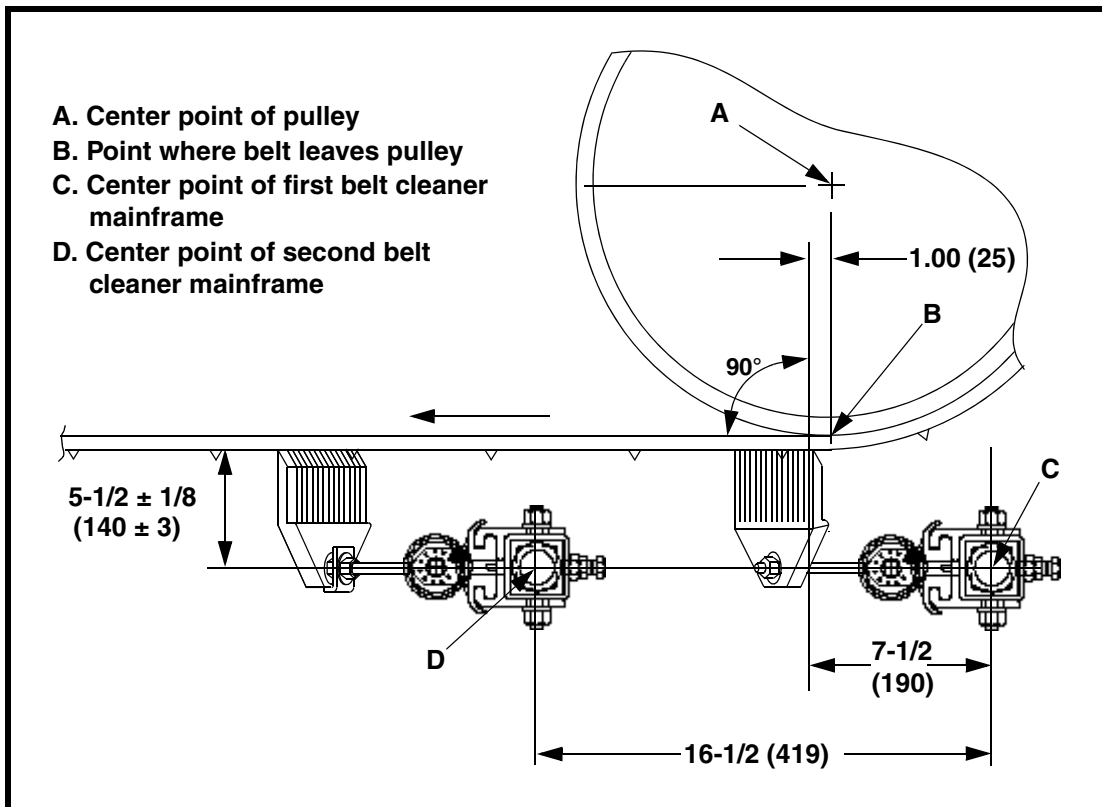

Figure 1. Martin® Torsion Arm Chevron Cleaner Mainframe Location
1. See Figure 1. On operator side chute wall, draw horizontal and vertical center lines of pulley to find pulley center point (A). Make sure vertical center line is perpendicular to belt line.
2. Measure 1 in. (25 mm) past point where belt leaves pulley (B), and mark vertical line on chute wall perpendicular to belt line.
4. Measure vertically and horizontally as shown in Figure 1 and mark mainframe center point (C).
- a. On chute wall, measure 16-1/2 in. (419 mm) from center of first mainframe (C, Figure 1) in direction of belt travel.
- b. Locate center of second cleaner mainframe (D) at this point. If you cannot install cleaner at this point, install it as close to it as possible. If belt is not adequately supported where blade contacts belt, a belt support must be installed.